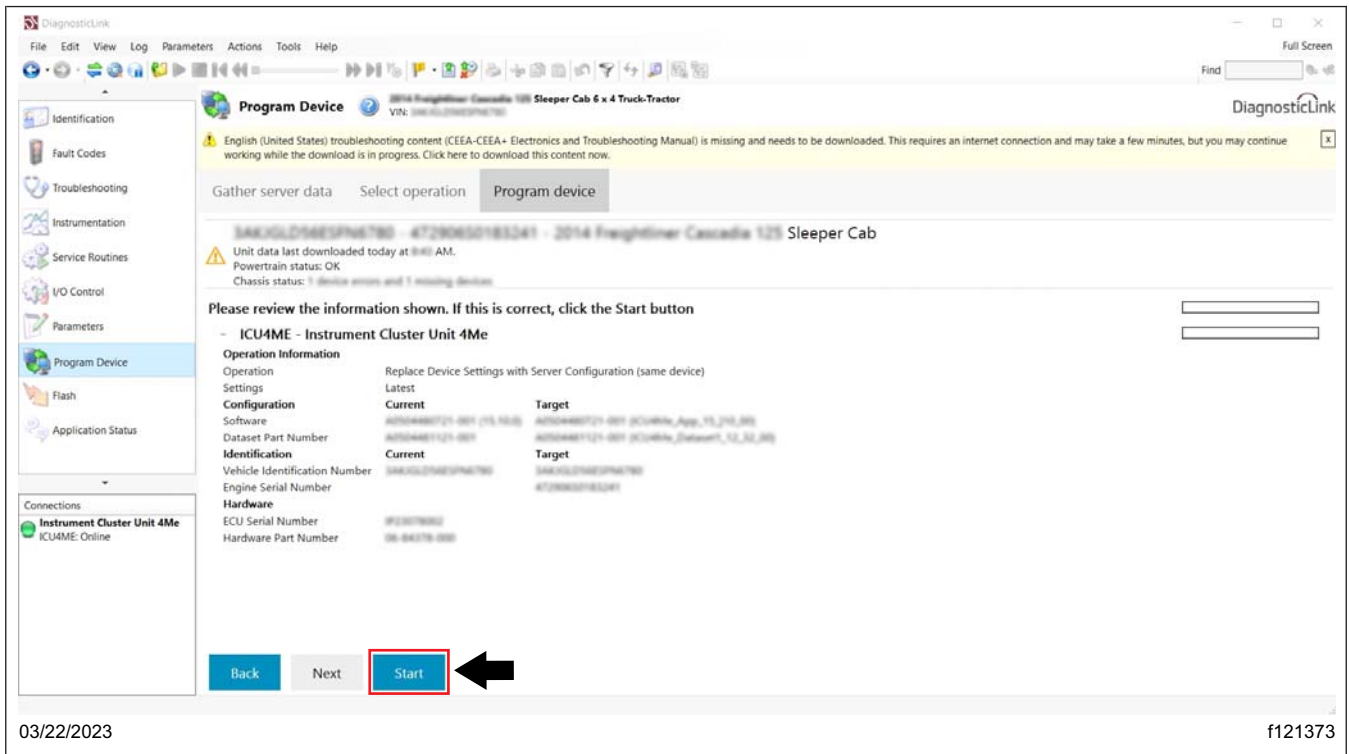

Fig. 15, Starting to Program the Device
8.9 Select 'Start' to begin the programming. See Fig. 15